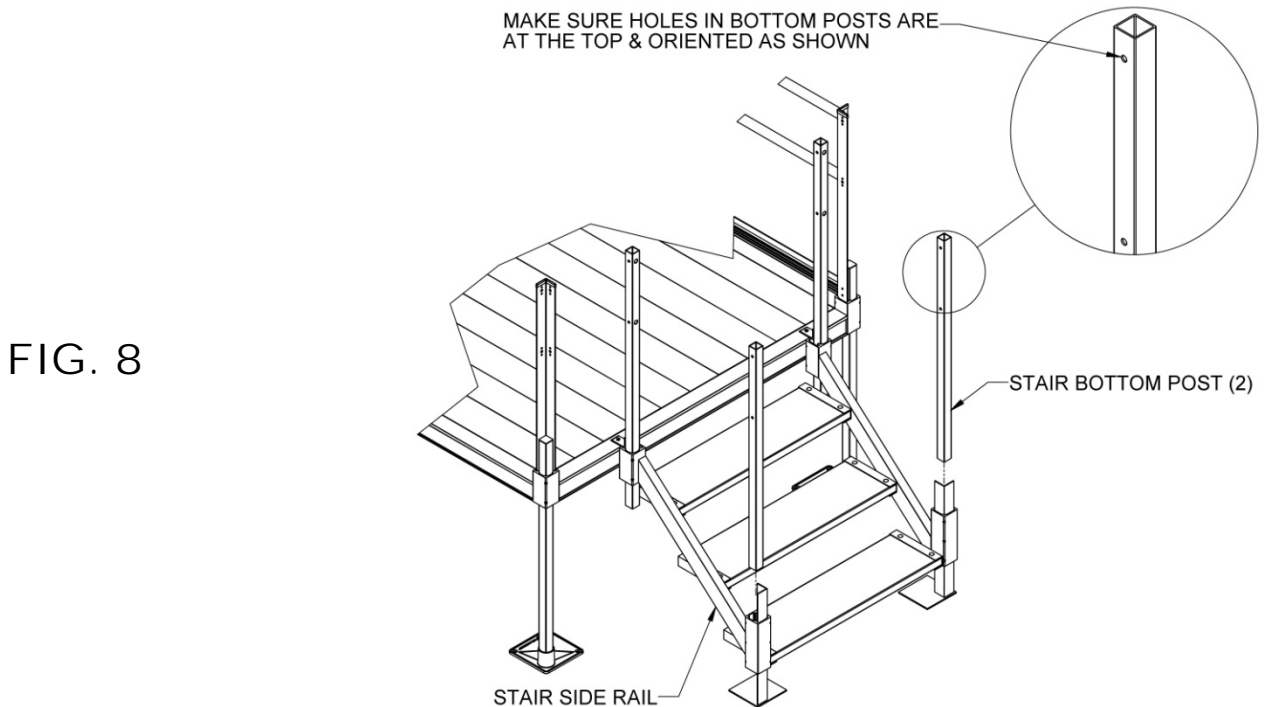

FIG. 8
3.5. Insert the stair bottom posts in bottom corner pockets with the holes on top and oriented as shown in FIG. 8. Do not tighten set screws yet.